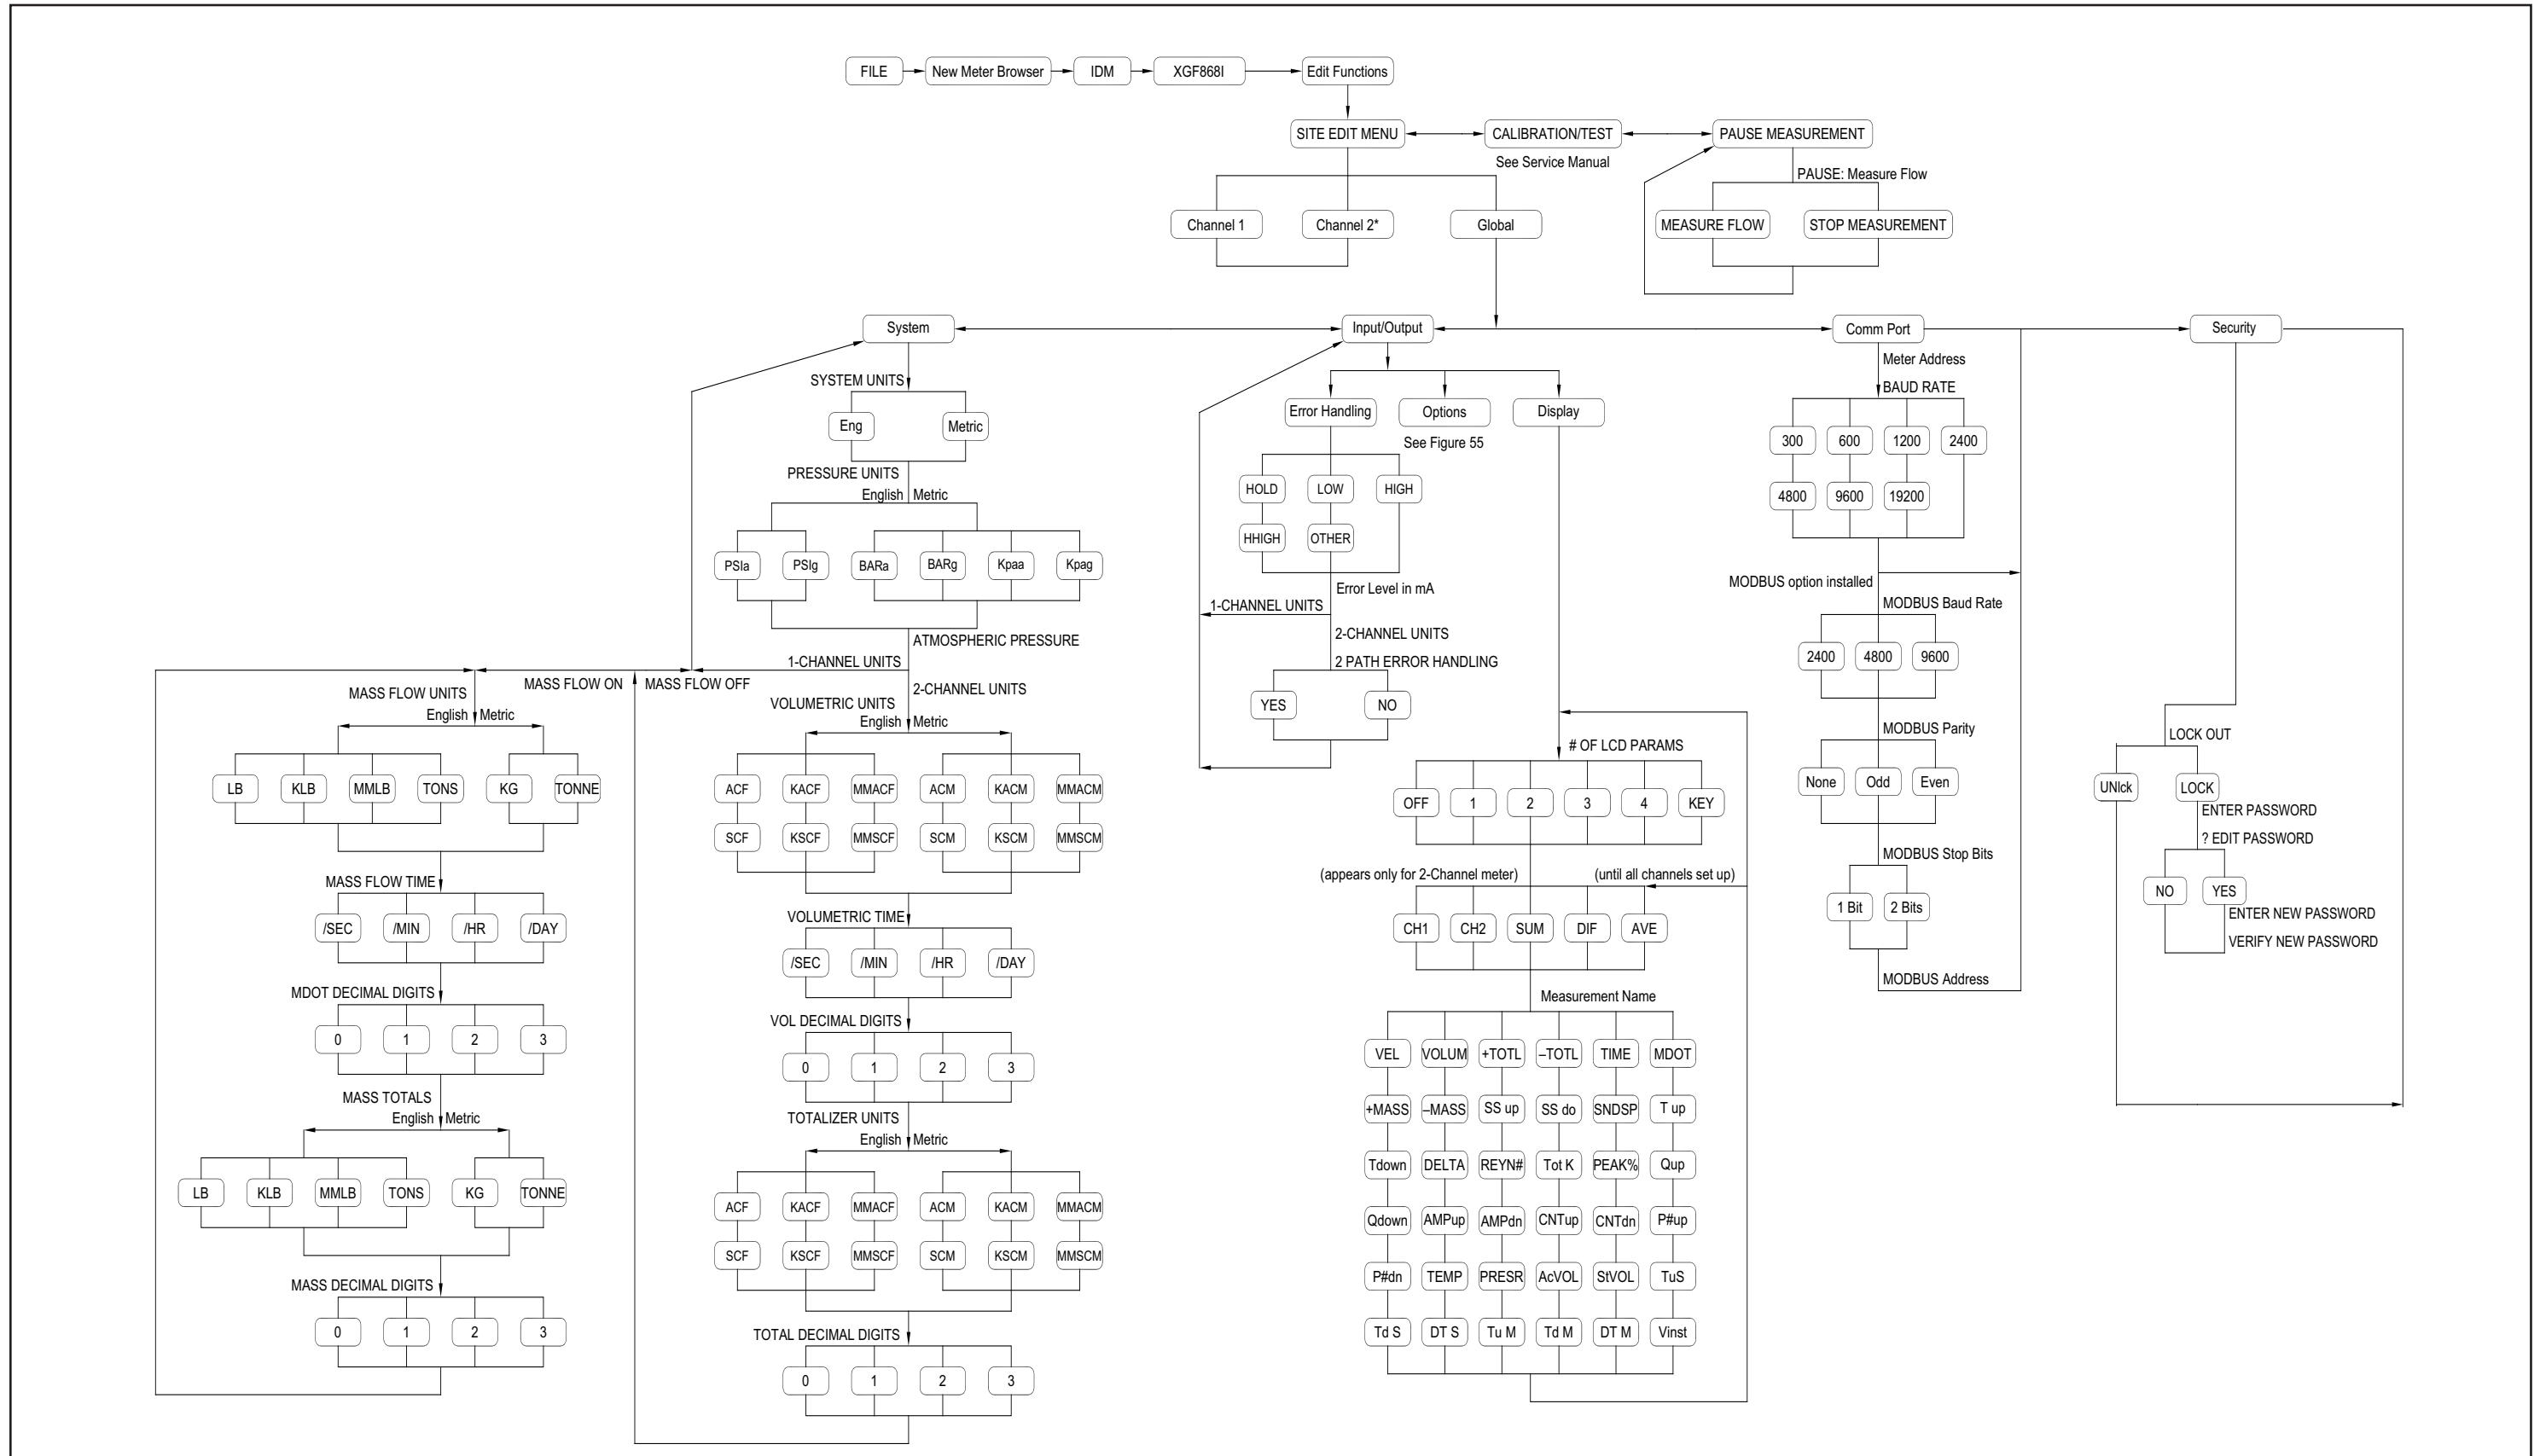

Figure 57: PanaView PROG > GLOBL > SYSTM, I/O & COMM Menus
While completing these instructions, refer to the menu map in Figure 57 on page 133.
- Figure 57, “PanaView PROG > GLOBL > SYSTM, I/O & COMM Menus,” on page 133